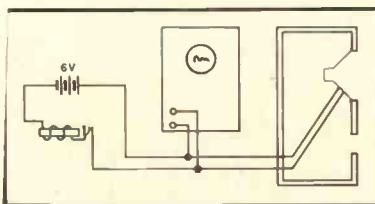

Fig. 11—7 Oscilloscope method of tuning a bass-reflex cabinet, or of determining bass transient response of any speaker system.
A second method for producing the effect of an infinite baffle is by mounting the loudspeaker in a large, totally enclosed cabinet. It is true that a sealed enclosure of any size or construction will stop the free path between the front and back of the cone, but several new, adverse results may be created. The most important of these is that the compliance of the speaker mechanical system is stiffened by the air of the enclosure. This air must be compressed for the cone to move back and stretched for the cone to move forward, and it becomes part of the entire mechanical resonant system (see the equivalent electrical circuit, Fig. 11—4). The resonant frequency of the system is made higher as a result, raising the low-frequency roll-off point, and shifting resonant emphasis to a region of the sound spectrum where it is more annoying.
The obvious way to avoid this effect is to make the enclosure stiffness negligible by providing sufficiently large volume. Unless the cubic capacity of the enclosure is great enough so that the added stiffness has little effect on the speaker resonant frequency the cabinet cannot properly be called an infinite baffle. A glance at Fig. 11—4 will indicate that the effect of a given acoustical stiffness ($1/C_A$) on the whole system depends upon the value of the speaker's mechanical stiffness, $1/C_{SP}$. Speakers with lower resonant frequencies require larger enclosures. Cabinet compliance to speaker motion is also inversely proportional to the area of the cone (squared), so that larger speakers with the same resonant frequency need larger cabinets.
The tuned-port enclosure, illustrated in Fig. 11—5, is a Helmholtz resonator. (See Chap. 4). The entire bulk of enclosed air acts like a spring, and the mass of air in the port like a connected mass. It is very important to remember that for ordinary cabinet sizes and
The second principle of the tuned-port enclosure is that at acoustical resonance motion of the air in the port is approximately 180 deg. out of phase with motion of the back of the cone. This too may be illustrated experimentally. When the hand holding the suspended weight and rubber band moves up and down at the resonant frequency of the system the weight will move down as the hand moves up, and vice versa. The phase shift is characteristic of the behavior of both the acoustical system and of its mechanical analogy at resonance; it has nothing to do with the acoustical path length between the back of the speaker and the port. (If the cabinet is made very long, however, the length of the air column may prevent pure Helmholtz or reflex operation.) On the basis of the principles described above we are now prepared to examine the performance of the reflex enclosure, and of its analogies illustrated in Fig. 11—5, at different frequencies.
Fig. 11—8. Impedance-frequency characteristic of the 8-in. speaker used in Fig. 10—10 (A), Chap. 10. (A), mounted in a 2 cu. ft. totally enclosed cabinet; (B), mounted in the same cabinet but with a reflex port which is carefully tuned and damped; and (C), mounted in the same cabinet with the port mistuned and relatively undamped.
Fig. 11—9. Transient response, as indicated by oscillograms made as described in the text, obtained with the three conditions of Fig. 11—8 and shown by the correspondingly lettered sections. (D) represents the transient response of another bass-reflex system, whose port is tuned but inadequately damped. The beat effect created by the two separated resonant peaks is seen clearly.